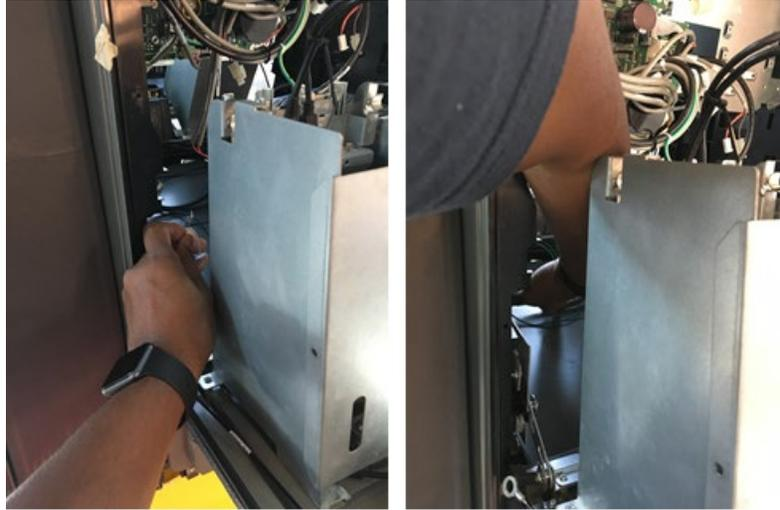

Figure 209
20) Push ground/bond wire that was just detached in step 18), to the B side of the dispenser. See Figure 209.